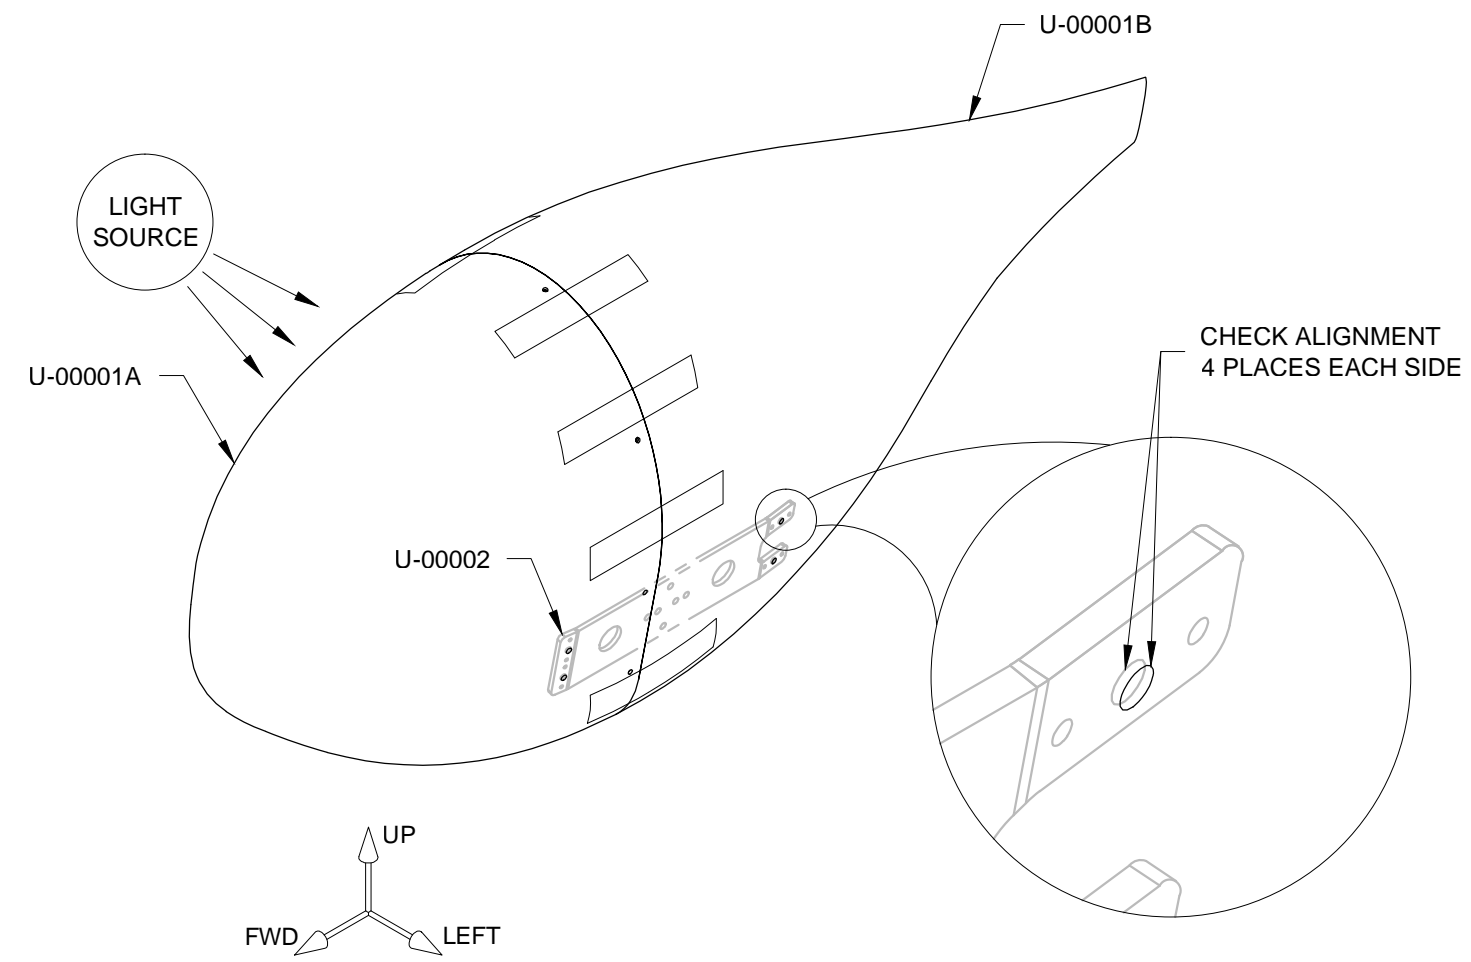

FIGURE 2: ALIGNING THE WHEEL FAIRING HALVES
Step 2: With the U-00001A Wheel Fairing Front and U-00001B Wheel Fairing Aft joined, place a U-00002 Wheel Fairing Bracket flush on the interior surface of the wheel fairings. Align the holes in the wheel fairing bracket with the dimples in the wheel fairings. Check alignment on both sides of the wheel fairing halves. If required, sand the wheel fairing front's aft edge until the holes and dimples align properly. See Figure 2.